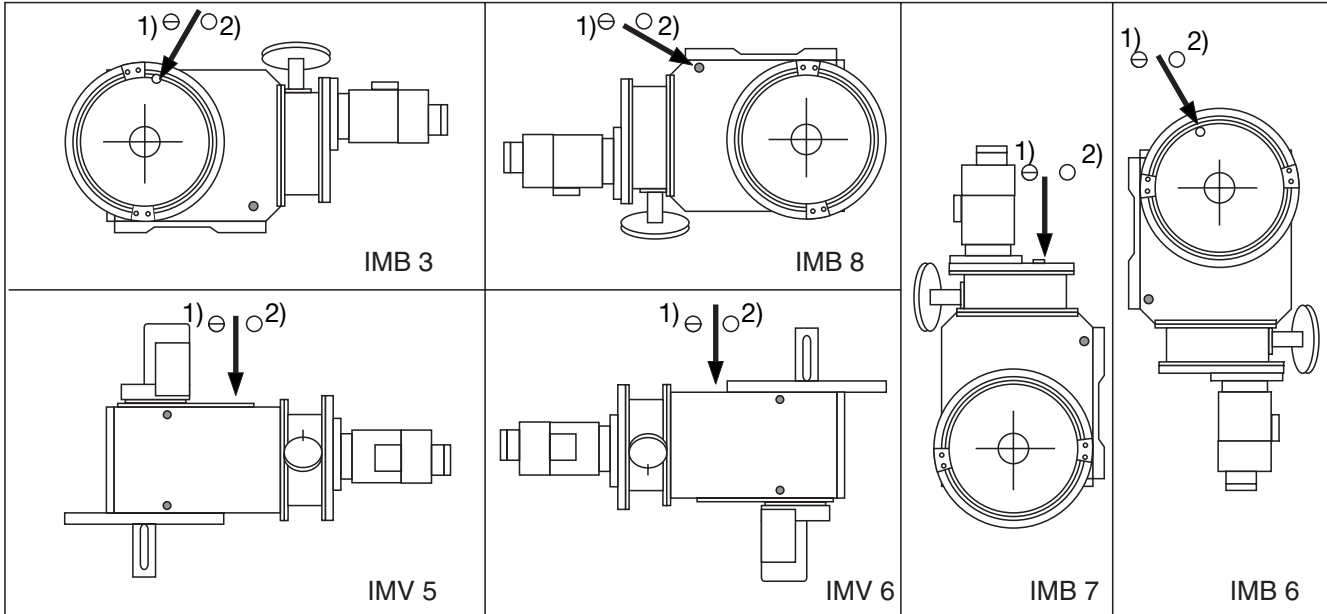

Fig. 2: Mounting position RHD8000 / RHD16000; 1) = inspection screw, 2) = venting screw
- open or undo the venting screw (fig. 2)